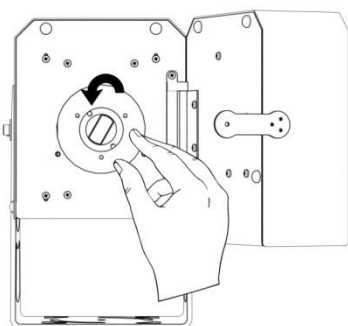

Fig.5
3. Turn the lamp counter-clockwise as shown in Figure 5 (handling it with the cloth of which there was previously fitted).